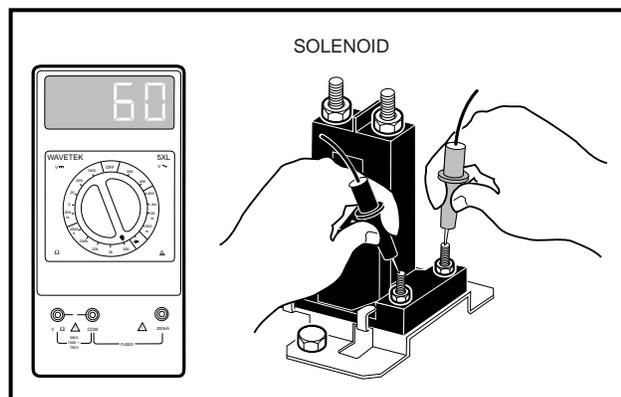

Figure 11-8 Solenoid Activating Coil Test
1. With batteries disconnected, place the red probe (+) of the multimeter (set to 200 Ω) on one of the small activating coil posts of the solenoid and place the black (-) probe on the other small post. There should be a reading of 55-60 ohms (**Figure 11-8, Page 11-8**).